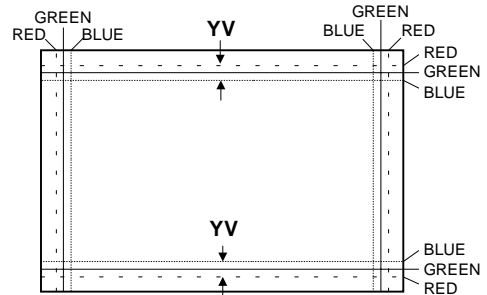

Fig. 4
2. Move the deflection yoke left to right to overlap the lines in the periphery, and match the Yv.(See Fig. 4)